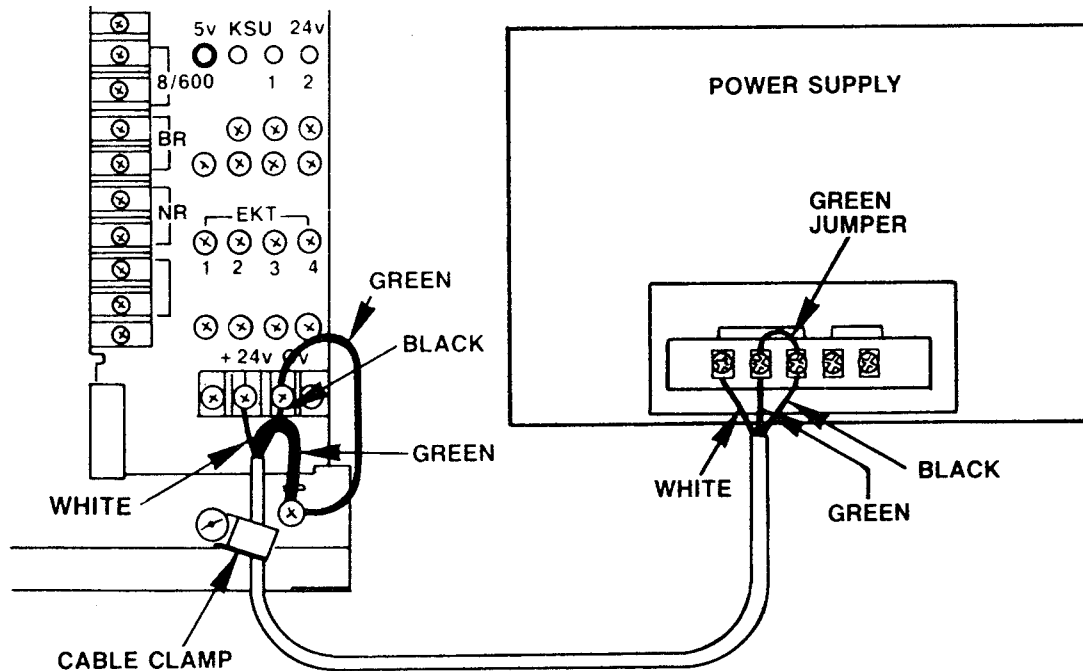

FIGURE 11—POWER SUPPLY WIRING—MKSU
cover from the power terminal strip on the MPRU, and, with the supplied cord, connect the power supply to the terminal strip and the MKSU frame ground (see Figure 11) in the following manner.
06.13 Use the additional green wire packed with the system to bond the "E" and "OV" terminals on the power supply (see Figure 11).
06.14 For protection against static electricity, a green jumper wire is attached to the "FG" screw (refer to Figure 11). This wire must be connected to the "OV" terminal on the MPRU power strip. Reinstall the plastic protective cover on the power strip at this time.